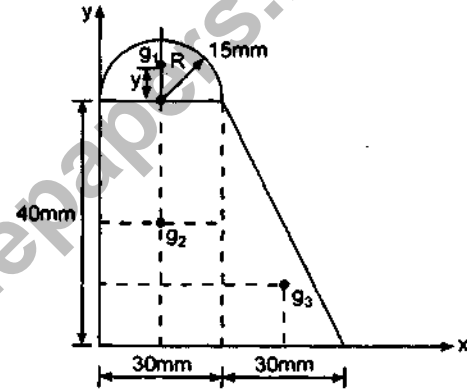

Fig. 3.
Q. 2(c) Calculate the moment of inertia of the composite area shown in Fig. 3 about the centroidal axis.